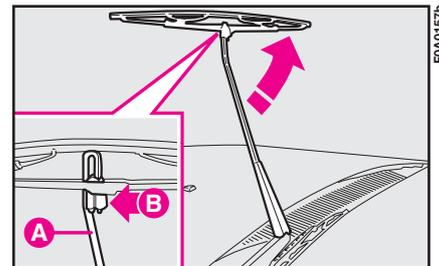

fig. 23
1) Lift the windscreen wiper arm **A** - **fig. 23** off the glass and position the blade so as to form a right angle with the arm.